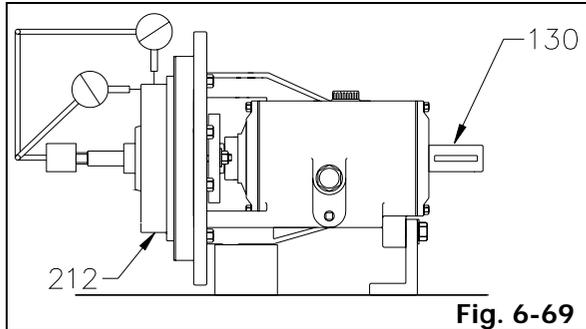

Fig. 6-69
5. Check stuffing box cover (212) run out. Rotate shaft (130) through 360°. If total indicator reading is greater than 0.13mm, determine cause and correct before proceeding (Fig. 6-69).